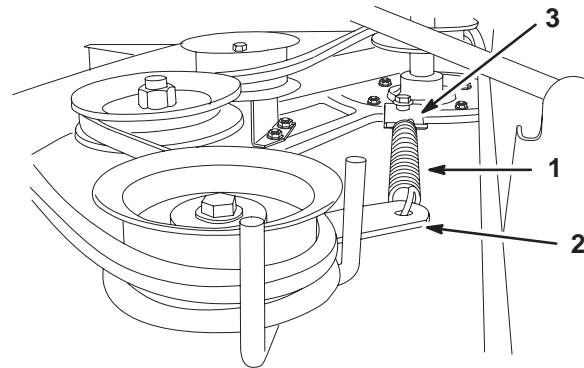

Figure 46
14. Hook the spring from the idler pulley arm to the bracket on the mower (Fig. 46).